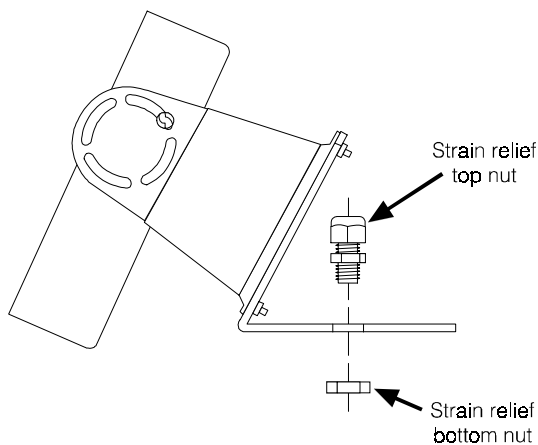

Figure E-8. Install strain relief
- Install the strain relief on the menu board mounting bracket as shown in Figure E-8, and route the cable through the strain relief. Pull any slack cable down through the bracket, leaving just enough to allow the microphone to be rotated up and down, and tighten the nut on the strain relief below the microphone.